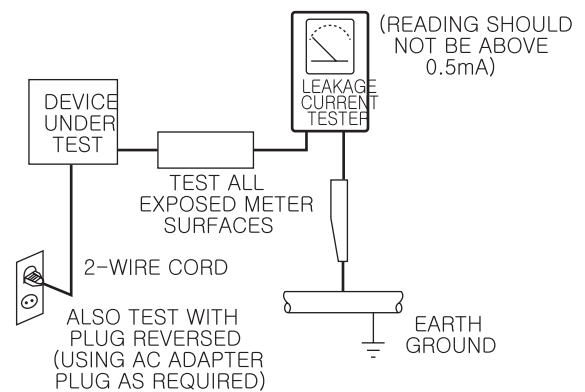

Fig. 1-1 AC Leakage Test
(2) Be sure that there are no cabinet openings through which adults or children might be able to insert their fingers and contact a hazardous voltage. Such openings include, but are not limited to, excessively wide cabinet ventilation slots, and an improperly fitted and/or incorrectly secured cabinet back cover.
(3) Leakage Current Hot Check- With the instrument completely reassembled, plug the AC line cord directly into a 230V(220V ~ 240V) AC outlet. (Do not use an isolation transformer during this test.) Use a leakage current tester or a metering system that complies with American National Standards Institute (ANSI) C101.1 Leakage Current for Appliances and Underwriters Laboratories (UL) 1270 (40.7). With the instrument's AC switch first in the ON position and then in the OFF position, measure from a known earth ground (metal water pipe, conduit, etc.) to all exposed metal parts of the instrument (antennas, handle brackets, metal cabinets, screwheads, metallic overlays, control shafts, etc.), especially any exposed metal parts that offer an electrical return path to the chassis. Any current measured must not exceed 0.5mA. Reverse the instrument power cord plug in the outlet and repeat the test. See Fig. 1-1.